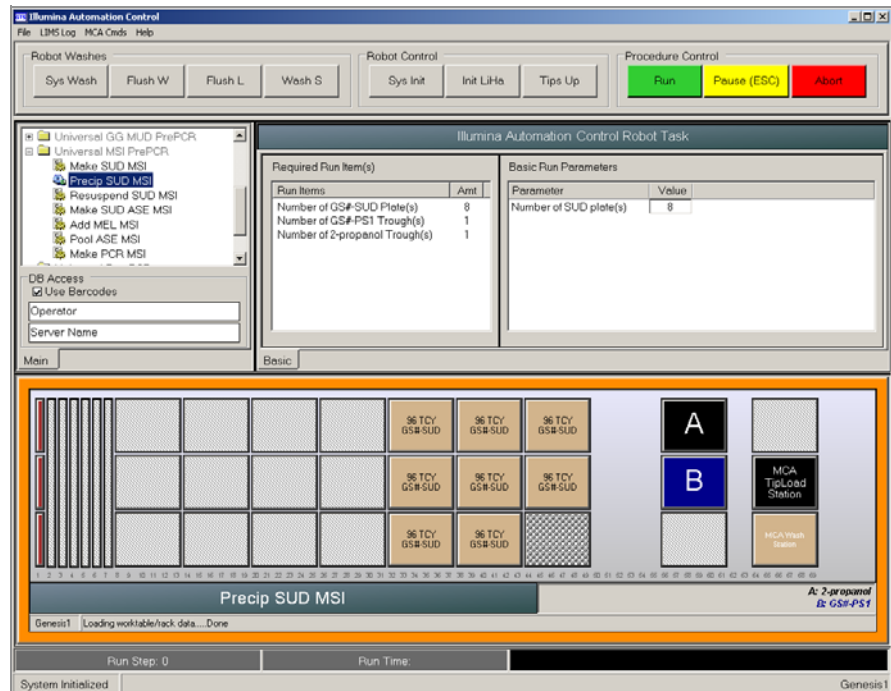

Figure 16 Universal MSI Pre-PCR | Precip SUD MSI
1. From the robot PC, select **Universal MSI PrePCR | Precip SUD MSI** (Figure 16).